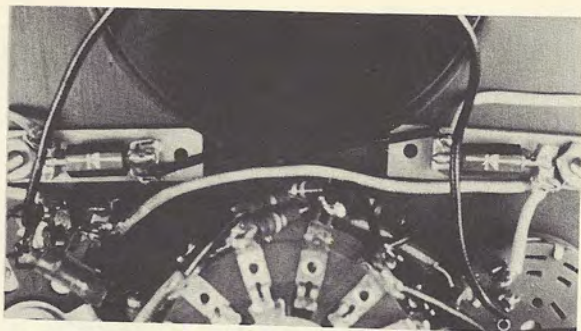

Fig. 12-9
Step 2. Insert the diodes in their holders so that the arrows point in the direction shown in Fig. 12-9.